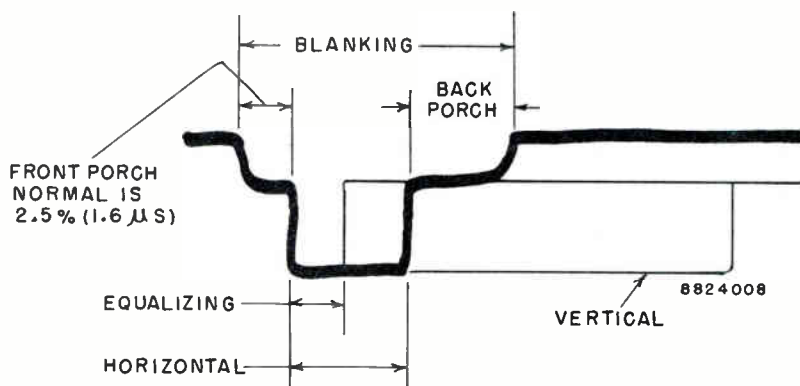

Figure 8 -- Front Porch Measurement (see text)
6. To check the "front porch", temporarily connect the blanking output, J3-5, to the **SYNC OUTPUT** jack, J2, then connect the oscilloscope to the **SYNC OUTPUT** jack. Compare the waveform with Figure 8.